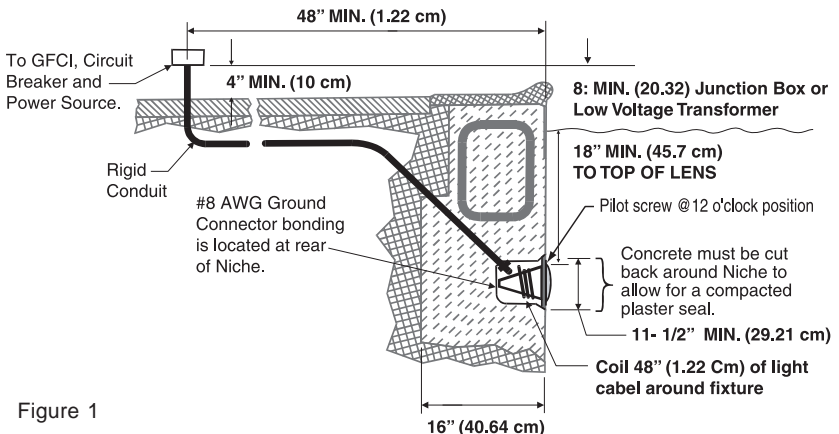

Figure 1
- The Junction Box (or, for 12 volt models, the low voltage transformer) is located at least eight (8) inches (20.3 cm) above water level and at least 48 inches (1.22 m) from the edge of the pool. See Figure 1 below.
- The light fixture and all metal items within five (5) feet (1.524 m) of the pool are properly electrically bonded.
- The wet niche is properly electrically bonded and grounded via the No. 8 AWG ground connector located at the rear of the niche; see Figure 1.
- The wet niche is properly installed so that the top edge of the underwater light's lens is at least 18 inches below the surface of the water in the pool; see Figure 1.